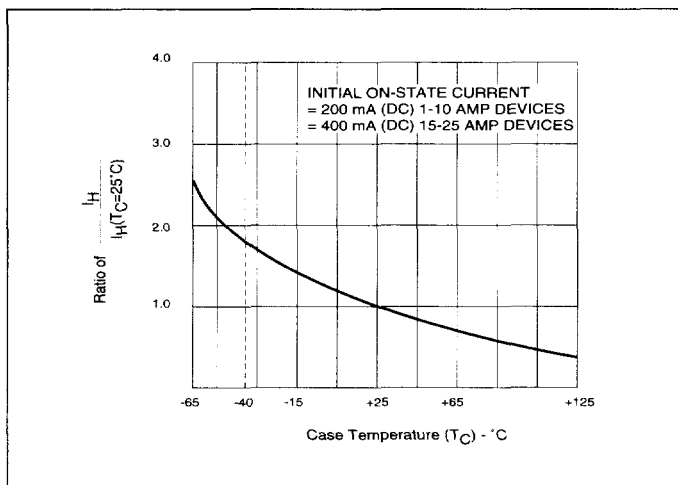

Figure 2.14 Normalized DC Holding Current vs Case Temperature
- See Figure 2.14 for IH vs TC.